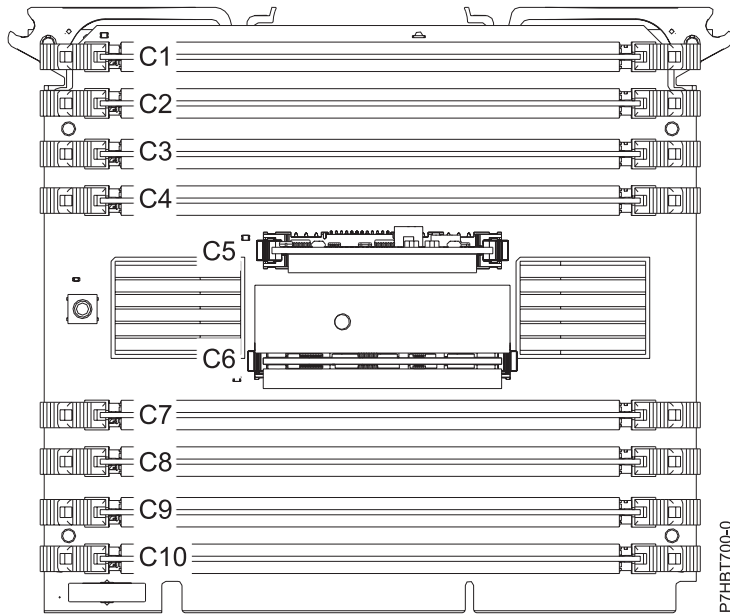

Figure 5. Memory voltage regulator module location
11. Locate the memory voltage regulator module to be removed from the system processor assembly. Figure 5 on page 13 shows the memory voltage regulator modules (C5 and C6) in relation to the location on the system processor assembly.